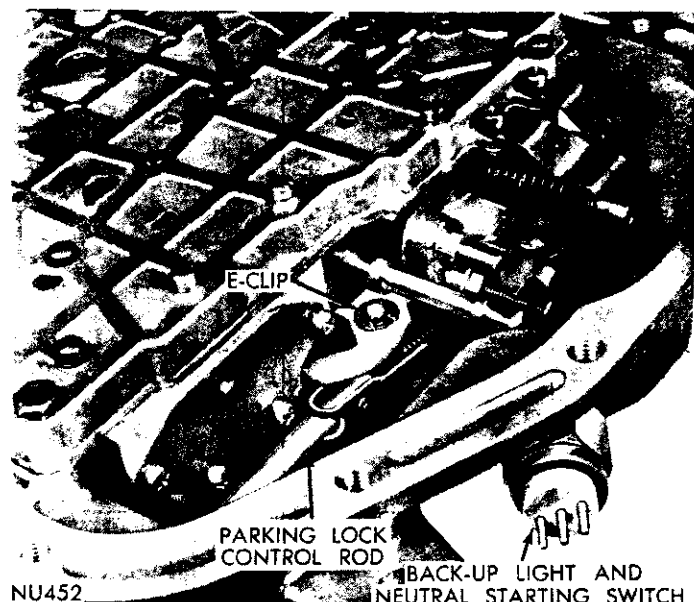

Fig. 24—Parking Lock Control Rod Retaining E-Clip
(1) Raise vehicle on a hoist.
(2) Loosen oil pan bolts, tap the pan to break it loose allowing fluid to drain, then remove oil pan.
(3) Disconnect throttle and gearshift linkage from levers on the transmission. Loosen clamp bolts and remove the levers.
(4) Remove E-clip (Fig. 24), securing parking lock rod to the valve body manual lever.
(5) Remove Back-Up Light and Neutral Start Switch.
(6) Place a drain pan under transmission, then remove the ten hex-head valve body to transmission case bolts. Hold valve body in position while removing the bolts.
(7) While lowering valve body down out of transmission case, disconnect parking lock rod from the lever.